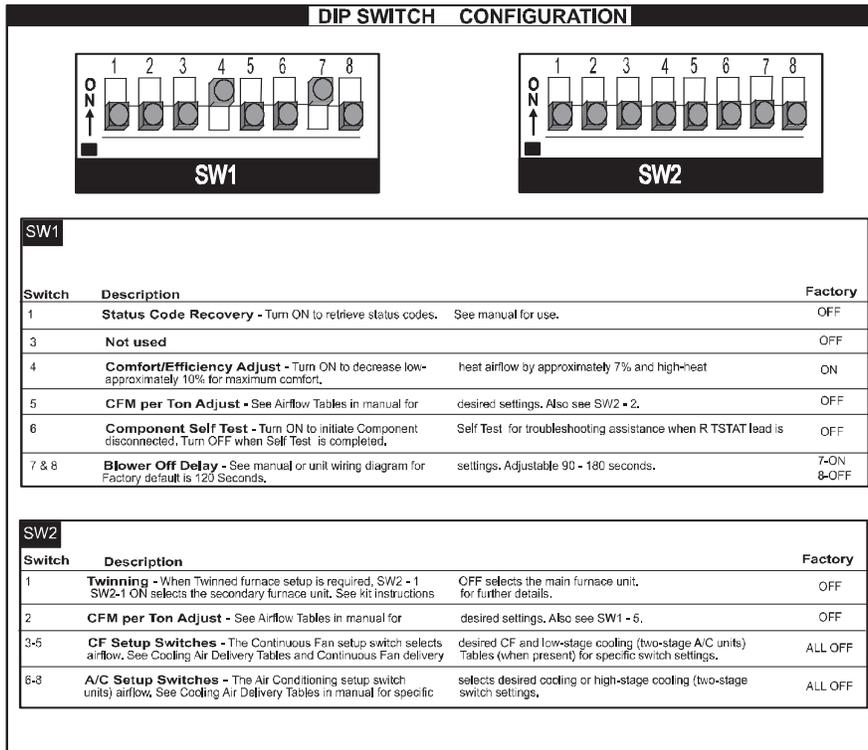

Fig. 45 – Furnace Setup Switch Description
6. Setup switch descriptions. The variable speed furnace control has DIP switches to select thermostat staging, blower off delay timings, air flow selection and other operational or service related functions, see Fig. 27 and Fig. 44 and Fig. 45.
- d. Turn Setup DIP switch SW1-6 ON, see Fig. 27 and Fig. 44 and Fig. 45.